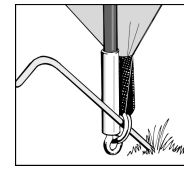

Figure 2.
- Start pegging out the tent at the front corners using steel V pegs. Pegs should be positioned at a 45° angle to ensure maximum grip (see figure 2).
- Peg the corners of the tent through the metal rings using pin-pegs. It is important to drive the peg into the ground at a 45 degree angle to obtain the best grip. **(See Figure 2)**.